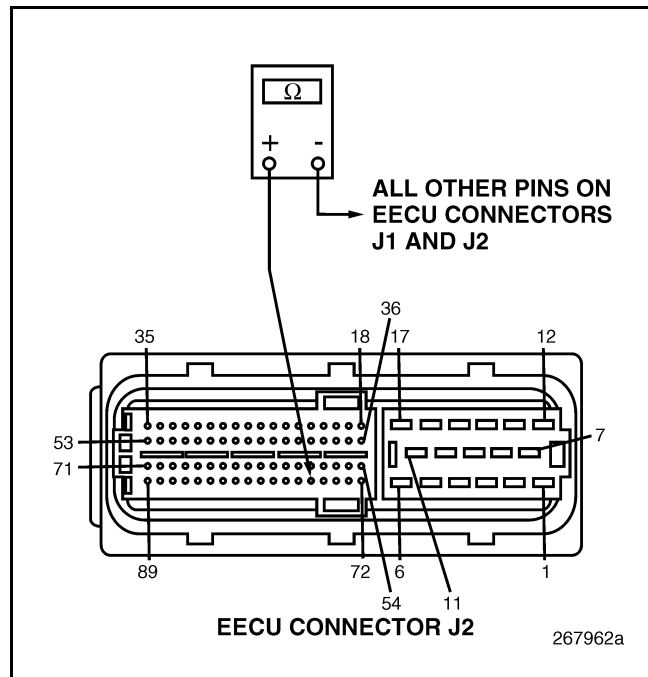

Figure 411
3. Disconnect the Engine Position (EP) Sensor.
4. Check for continuity between EECU connector J2 pin 76 and all other pins on EECU connectors J1 and J2 (see Figure 411).